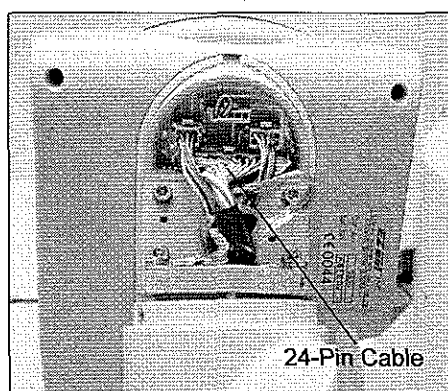

Figure 4-25a: Controller PCB
2. Remove the Injector Controller Cable Cover (see Section 5.4.1 – Replacing the Injector Controller Cable Cover) and disconnect the 24-pin connector from the back of the Controller PCB (see Figure 4-25a).